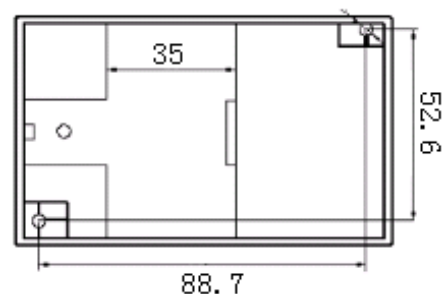

Figure 3, SK outline installation dimensions
DIN35 rail mounting or screw mounting, the installation size as shown in Figure 3 (in mm).
②Pull the spring pin down;
③Clip the transducer mount on the mounting rail;
④Release the spring pin and clip the transmitter on the mounting rail.
①3mm diameter hole in the fixed plate according to the screw hole position shown in Fig. 3;
②Use the screw $\Phi 3$ to insert into hole and secure it.